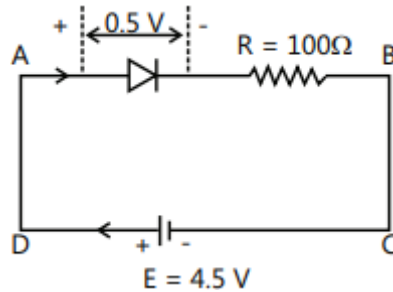

Fig 3. Barrier potential in diode
1.2 A diode connected to an external resistance and an e.m.f. assuming that the barrier potential developed in diode is 0.5V as shown in the fig1.3. Obtain the value of current in the circuit in milli- ampere as shown in the fig.3.